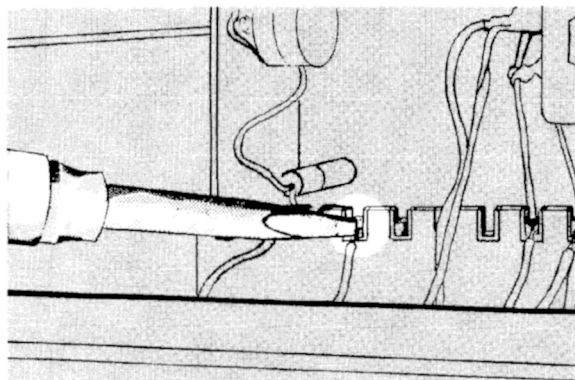

Fig. 4-2. Correct method of applying heat in soldering to a ceramic strip.
4. Apply one corner of the tip to the notch where you wish to solder (see Figure 4-2).